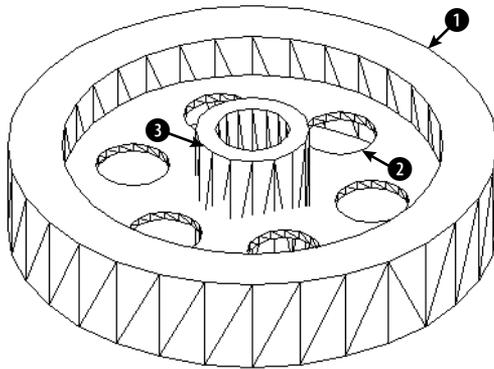

Figure 24-18: The result of three subtraction operations.
7. Use the HIDE command to see the result. This enables you to check the effects of the subtraction operations. Your drawing should look like Figure 24-18.
8.  Choose Union from the Solids Editing toolbar. Select the three solids at 1, 2, and 3 in Figure 24-18 and right-click to end selection.